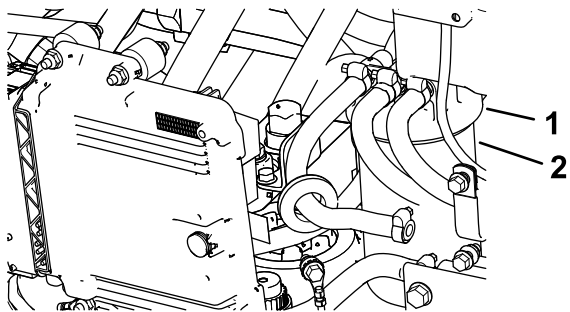

Figure 106
1. Clean the area around the fuel-filter head (Figure 106).
2. Remove the filter and clean the filter-head-mounting surface (Figure 106).